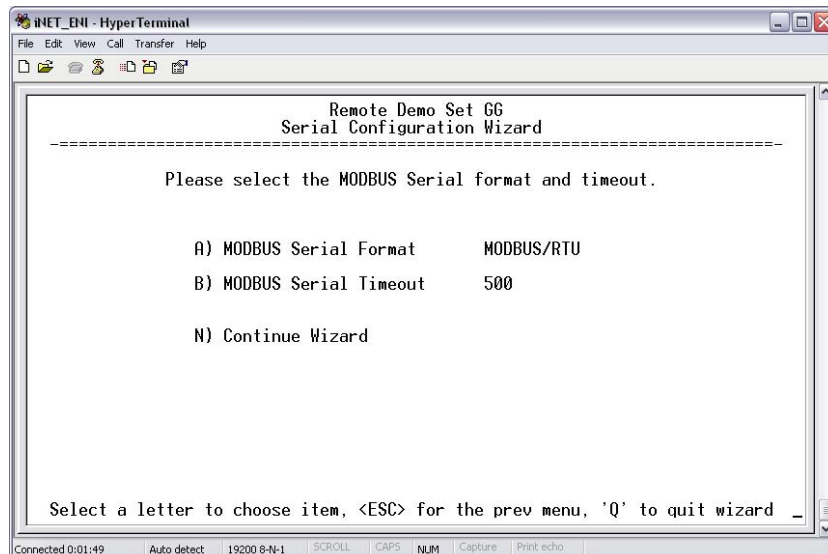

Figure A-13. Choose MODBUS Serial Format and Timeout
2. Press **A** to change the MODBUS serial format, then press the **space bar** to toggle between the available formats (**MODBUS/RTU** or **MODBUS/ASCII**). Press **B** to enter the MODBUS serial timeout value. See Figure A-13. Press **N** to continue.